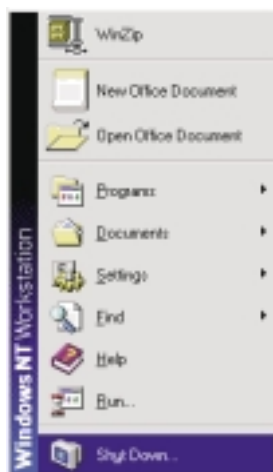

Fig. 2
Step 1 : Click on the Start button (Win95, Win98 or Win NT) and choose " Shut Down..." as shown in Fig. 2.